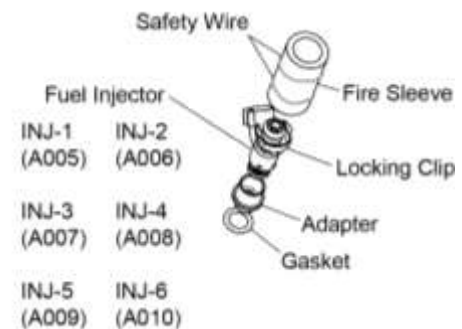

Figure 9
- (8) Cut and remove the safety wire from the fire sleeve on the fuel injector (Figure 9)
- (9) Move the locking clip to unlock each fuel injector from the fuel injector rail.
- (10) Remove the fuel injector rail from the fuel injectors.
- (11) Remove the three fuel injectors from the fuel injector adapters.
- (12) Remove the fuel collection container and dispose of the fuel in accordance with environmental regulations.
(3) Install the three fuel injectors (with the fire sleeve installed on the injectors) on the fuel injector rail.
(4) Make sure the fuel injectors are oriented correctly on the fuel rail. Move the locking clip to lock each fuel injector to the fuel injector rail.
(5) Safety wire the fire sleeve (Figure 9).
- (1) Remove the fuel injector rail per instructions in the “Fuel Injector Rail Assembly Removal” section of this chapter.
- (2) Remove the fuel injector adapter (Figure 9) to be replaced from the engine cylinder.
- (3) Discard the fuel injector adapter and the annular gasket.